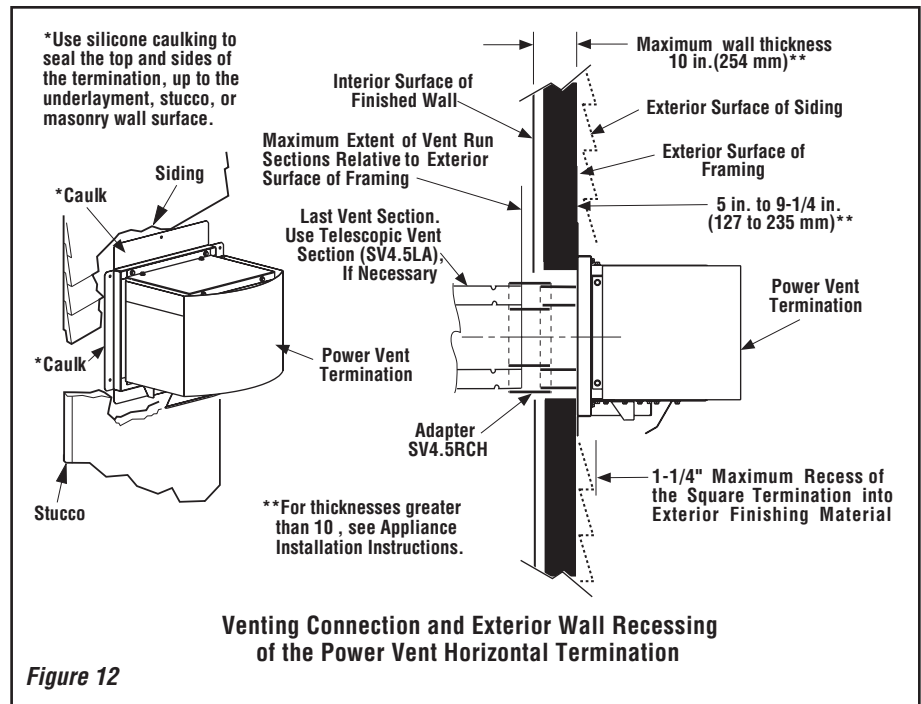

Figure 12
- Assemble the vent system to the point where the end of the last section is within 8 inches of the outside wall surface where the **power vent termination** is to be mounted (*Figure 12*).
Note: For wall thicknesses greater than shown in *Figure 12*, refer to the fireplace *Installation Instructions* for other venting components that may be required (in addition to the **power vent termination** [#11] and **termination adapter** (SV4.5RCH) [#12]).
Note: Do not recess the termination into the exterior wall or siding by more than 1-1/4" (32 mm), as shown in *Figure 12*.